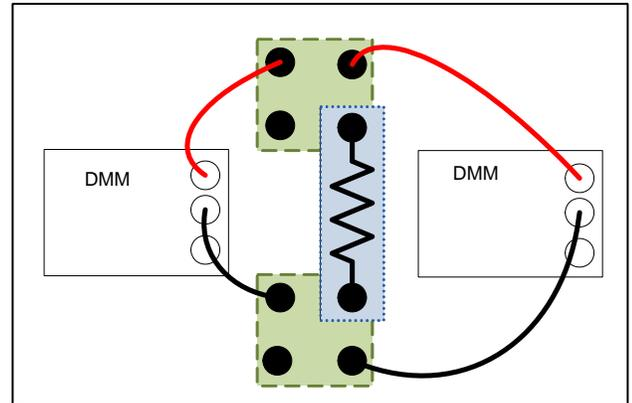

Figure 2
- If two meters were plugged into the same two “quads” (Figure 2), would they get the same readings?